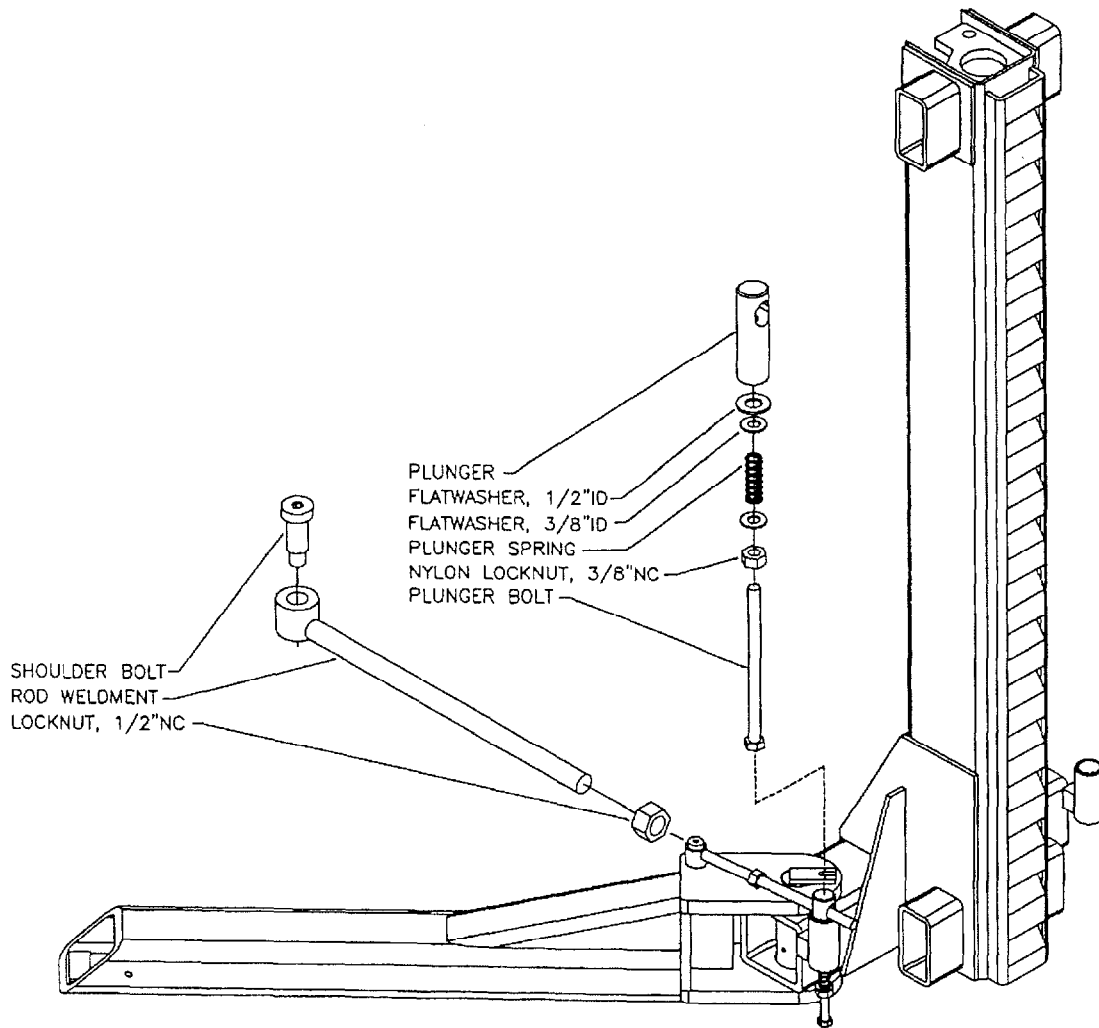

Figure 8 – Arm Lock Installation
1. Refer **Figure 8** - arm lock installation.